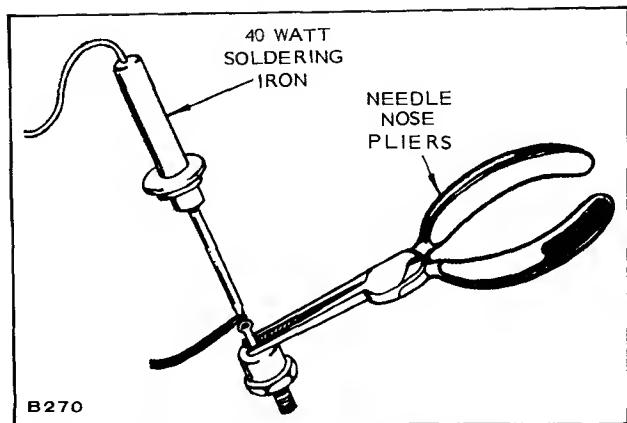

FIGURE 10. SOLDERING DIODE LEAD
**CAUTION** When unsoldering or soldering wire to diode, hold a needle-nose pliers (Figure 10) between diode terminal and soldering point to prevent heat from destroying diode.